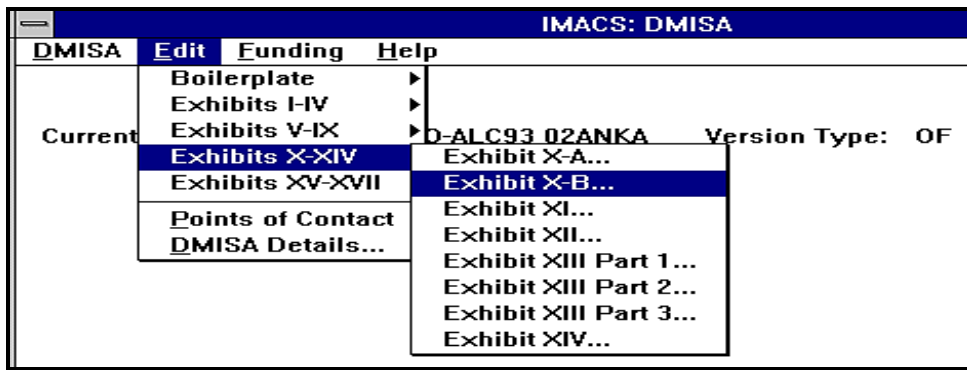

Figure 28-1. DMISA Menu - Exhibit X-B Selected
Step 1. From the DMISA menu, click on the **Edit** selection. A drop down menu displays. Click on **Exhibits X-XIV**. Another drop down menu displays. Click on **Exhibit X-B** (see Figure 28-1, DMISA Menu - Exhibit X-B Selected).